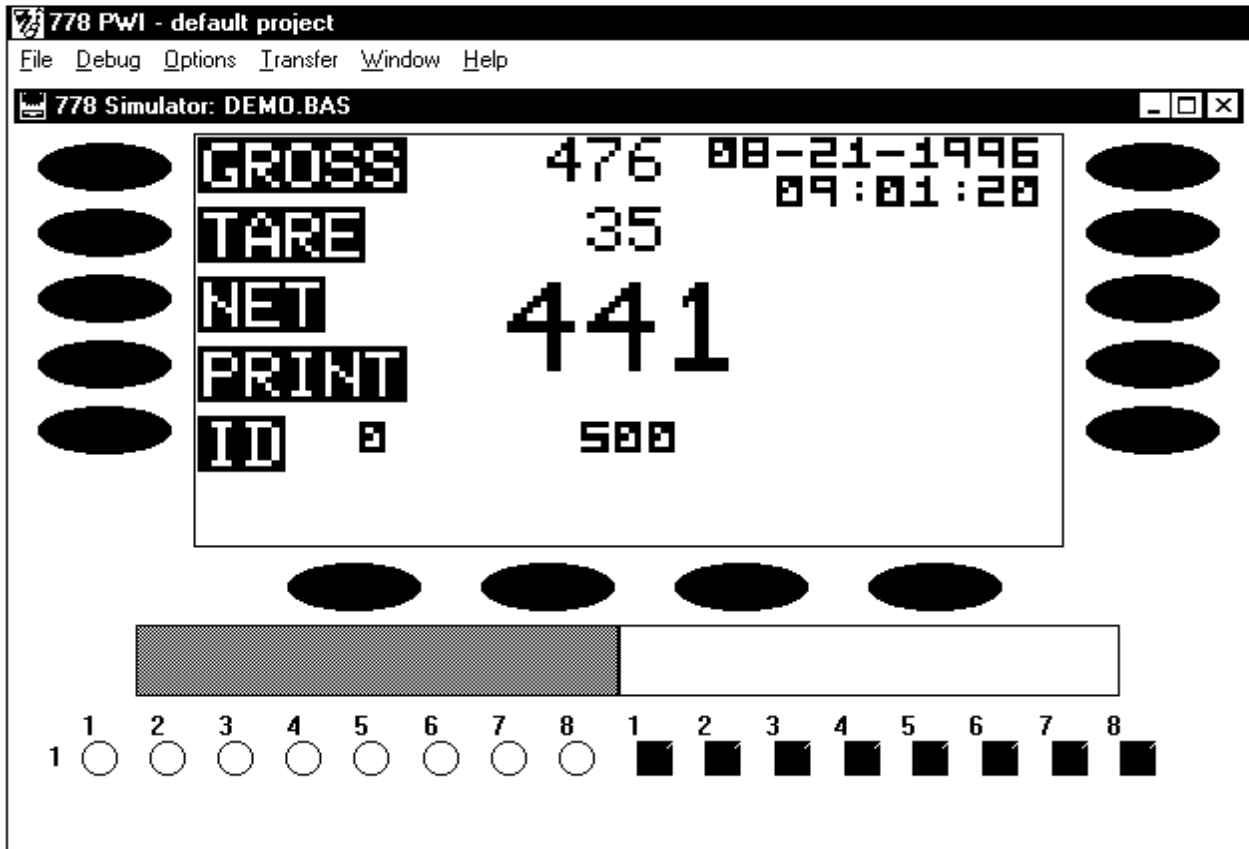

Figure No. 27
The sliding bar Weight Simulator allows you to vary the simulated weight by moving the mouse pointer along the rectangle centered directly under the four (4) softkeys below the simulated display (see Figure No. 27).